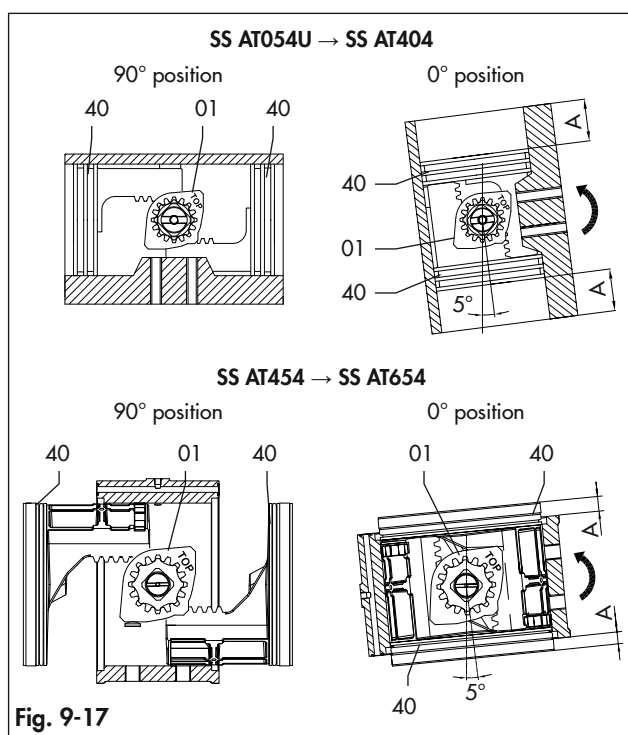

Fig. 9-17
- With pistons completely closed (0° position) as per Fig. 9-17, referring to the axis of the body, the rotation obtained must be about over 0° up to 5°.
- With pistons completely closed (0° position) as per Fig. 9-17 the dimension "A" must be the same on both sides.